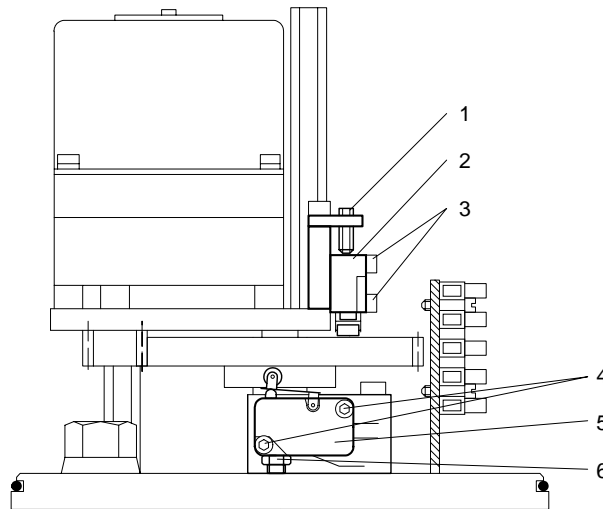

Fig. 2
- turn adjustment screw (1) (see Fig.2) anticlockwise about three rotations
- loosen slight hexagon socket head cap screw (3), push switch (2) upwards
- turn adjustment screw (1) clockwise until the switch (2) turns off plus 1 1/4 rotations
- tighten slight hexagon socket head cap screw (3)
- turn adjustment hexagon screw (6) (see Fig.2) clockwise about three rotations
- loosen slight hexagon socket head cap screw (4), push switch (5) downwards
- turn adjustment hexagon screw (6) anticlockwise until the switch (5) turns off plus 1 1/4 rotations
- tighten slight hexagon socket head cap screw (4)